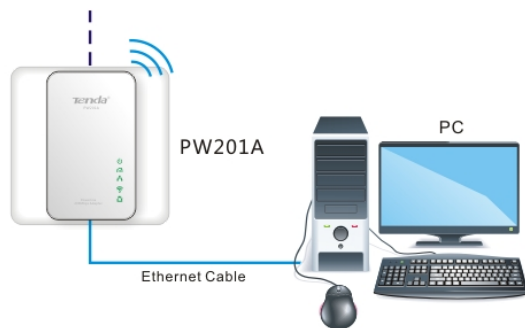

Figure 1-6 Terminal Connection
2. Plug the PW201A to a wall outlet within the same power circuitry as the Tenda P200 and connect your PC to it via a wireless or wired connection (The latter requires an Ethernet cable) as seen in figure 1-6: